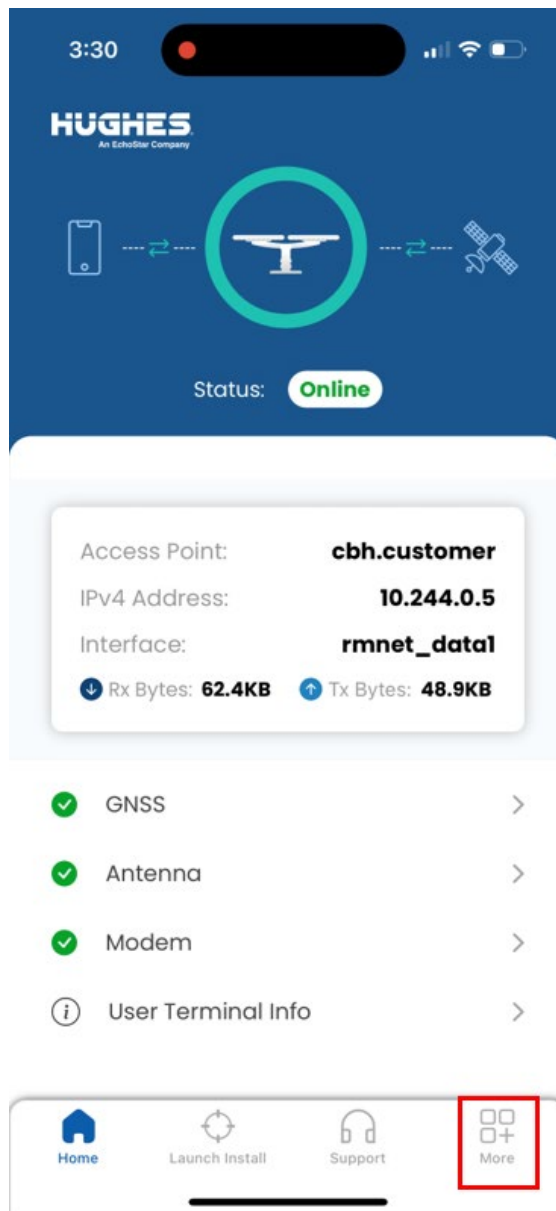

Figure 130: More button on dashboard
3. Now you will see the dashboard screen as shown in Figure 130.
4. From the dashboard click the **More** button to launch the screen shown in Figure 130.